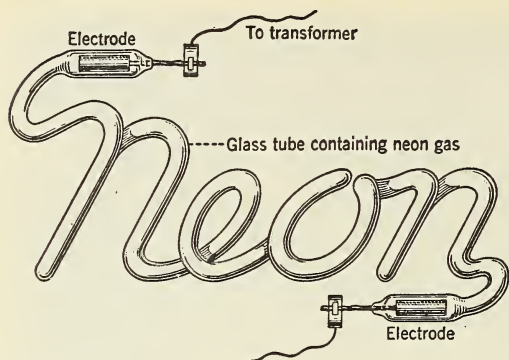

FIG. 10-20. Neon lighting is effective for advertising signs, and it is inexpensive, too.
g) *Display lighting.* Many large advertising signs use *neon lighting*. A glass tube may be bent in any direction to spell out words or to outline various designs. Neon gas on the inside glows when electricity is passed through the tube. Different colors are produced by using other gases inside the tubes, or by using different-colored glass for the tubes. The cost of neon lighting is very small. [See Fig. 10-20.] If neon advertising signs are used near traffic lights, they may confuse drivers and become a safety hazard.